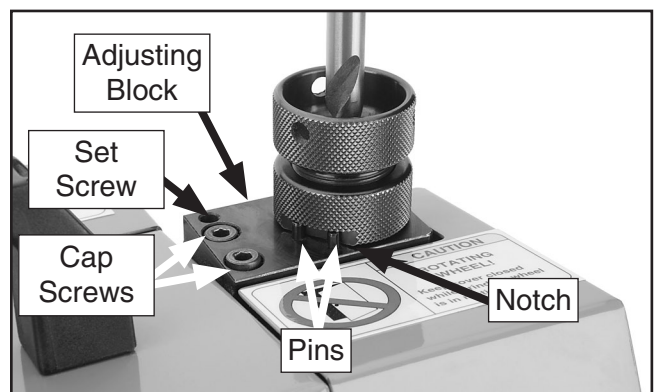

Figure 23. Collet and bit inserted into rear trimming area.
1. Loosen the cap screws (**Figure 23**) on the rear trimming area and lower the set screw to raise the adjusting block to its highest position.
4. Insert the collet holder and bit into the rear trimming area so the pins fit into the notch on the collet holder as shown in **Figure 23**.